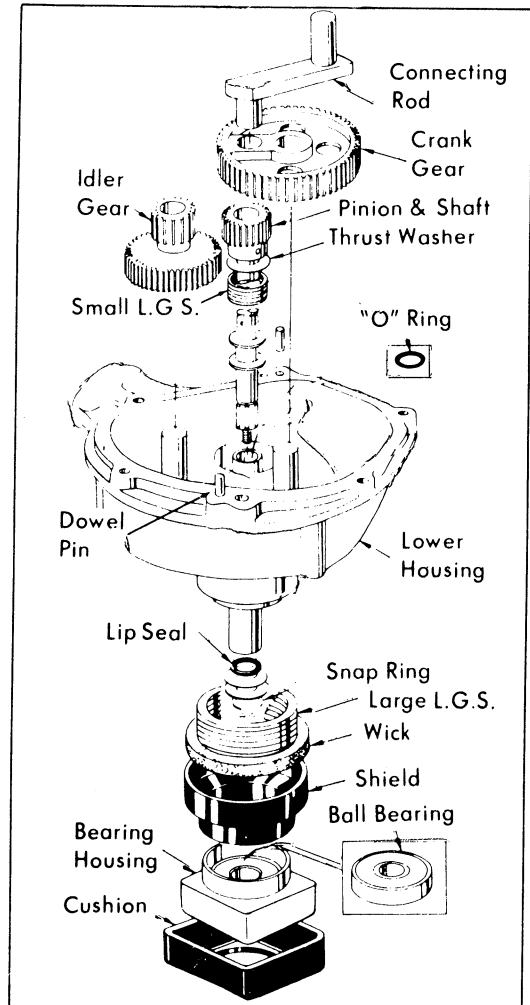

Figure 107 – Lower Housing and Related Parts
8. Remove transmission from support plate for access to the housing, ball bearing, large L.G.S. spring rubber shield and wick from lower end of transmission, *Figure 107*.